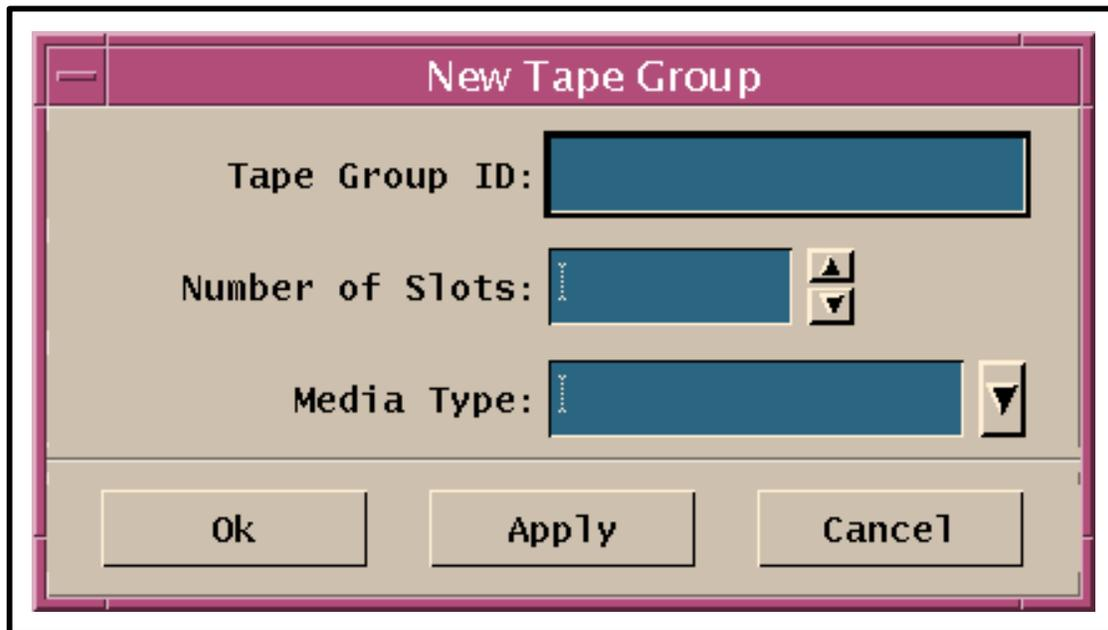

Figure 14. New Tape Group Window (Storage Management Control GUI)
- The **New Tape Group** window (Figure 14) is displayed.